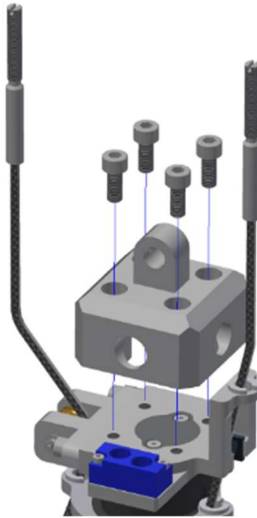

Figure 4-19. Remove upper neck load cell by removing four M5 X 0.8 X 12 LG. SHCS
4.2.10 Remove upper neck load cell by removing four M5 X 0.8 X 12 LG. SHCS (Figure 4-19).